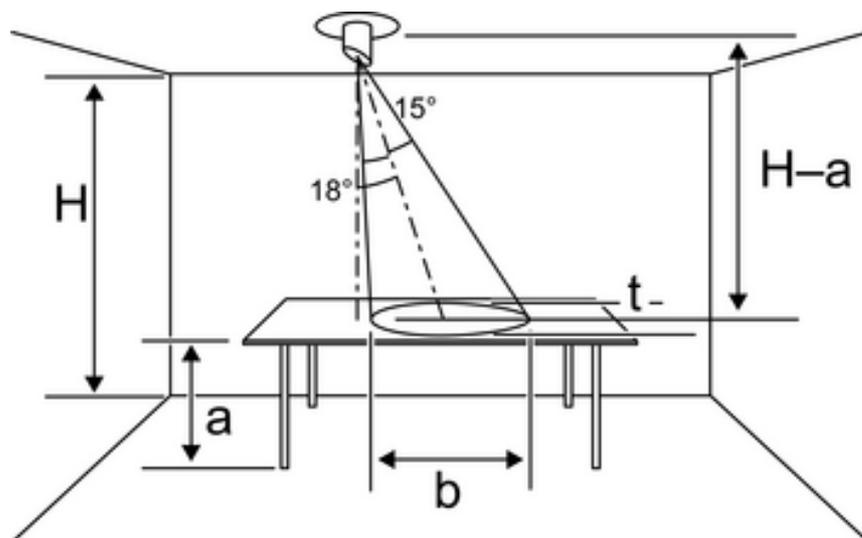

Figure 4: Rigid fibre-optic rod with sloping incidence
- If installation is not possible directly over the work surface, then install the brightness controller with a side offset (Figure 4). The detection cone is then to the side of the surface to be measured.
The controller is above and to the side of the work surface (Figure 4).
- Insert the rigid fibre-optic rod with a sloping incidence (7) approx. 10 mm into the sensor opening (8).
- Align the rigid fibre-optic rod (7) in such a way that the longer side of the rod points towards the work surface to be measured (Figure 4).
**i** Calibrate the controller when using the rigid fibre-optic rod with sloping incidence (7).